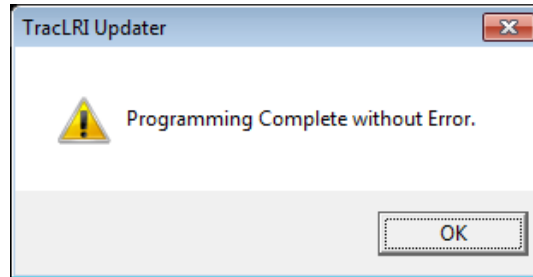

Figure 10. Successful Load Message
17. Now click the **"Update"** button and the load should begin. A bar graph will display the progress. Once the load is complete the following screen should appear after a few seconds. **Fig. 10**